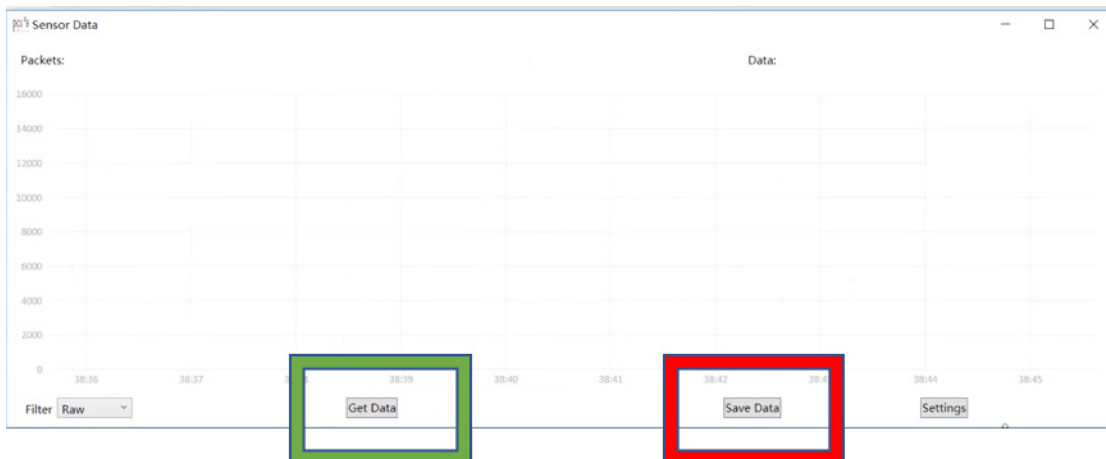

Figure 6
- A sensor data graph with time tracked on the x-axis and pressure on the y-axis will appear (Figure 6)